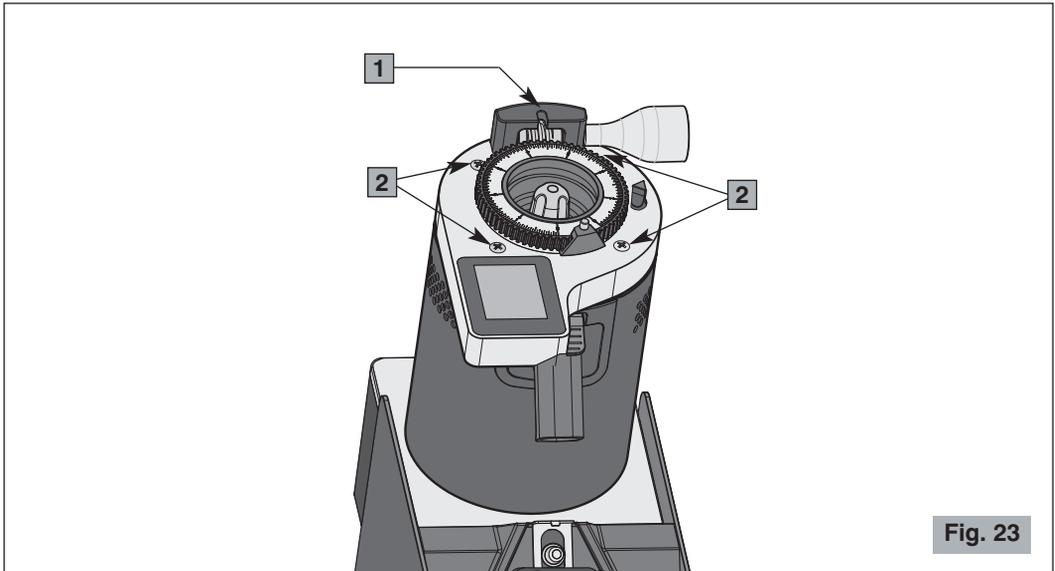

Fig. 23
Once the hopper has been removed, it can be washed with lukewarm water and neutral soap, then rinse it and dry well. To reassemble it, hook the tooth in the rear part of the hopper in its seat (1, Fig. 23).
- To clean the head remove the four screws (2, Fig. 23) that secure it to the body.